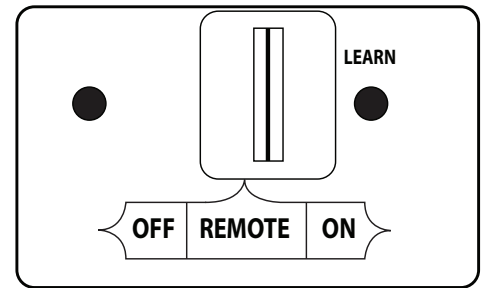

Fig. 39-1 Remote receiver detail (ON)
1. Locate the 3-position switch on the remote receiver (see Fig. 39-1), and slide the switch to the **ON** position.